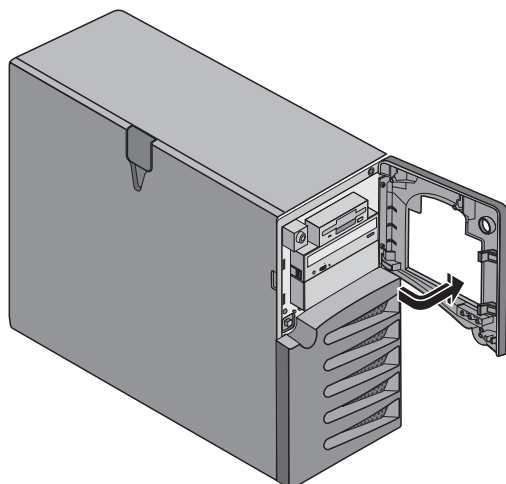

Figure 2-2: Upper bezel (open)
- The key lock, power switch, and system and LAN status indicators are located within the front upper bezel. Refer to Figure 2-2.
3. Hold the bezel at the notch on the side panel and swing the bezel open to the right. Refer to Figure 2-2.